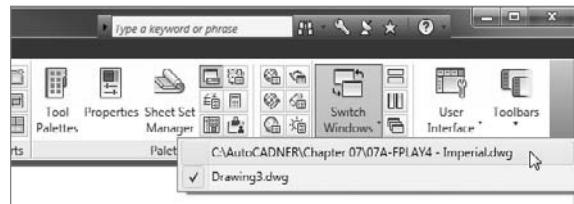

FIGURE 7.51 The Open Drawing menu with Drawing3.dwg active
2. Click the Switch Windows button from the View tab > Windows panel. When the menu opens, notice at the bottom that the open drawings are displayed and the active one is checked (see Figure 7.51).